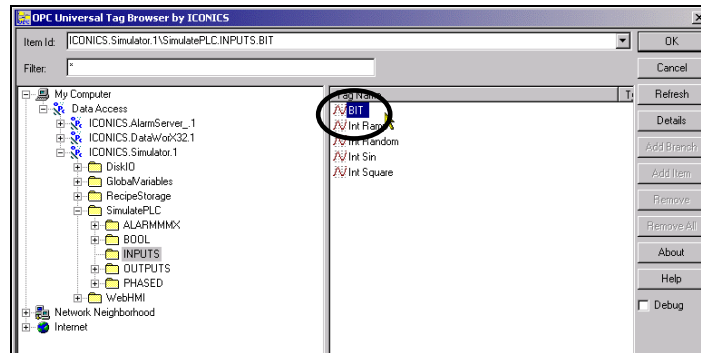

Figure 5.55
14. In the **Universal Tag Browser** select the **BIT** tag from **My Computer**→**Data Access**→**ICONICS.Simulator.1**→**SimulatePLC**→**INPUTS**, as shown in **Figure 5.55**.